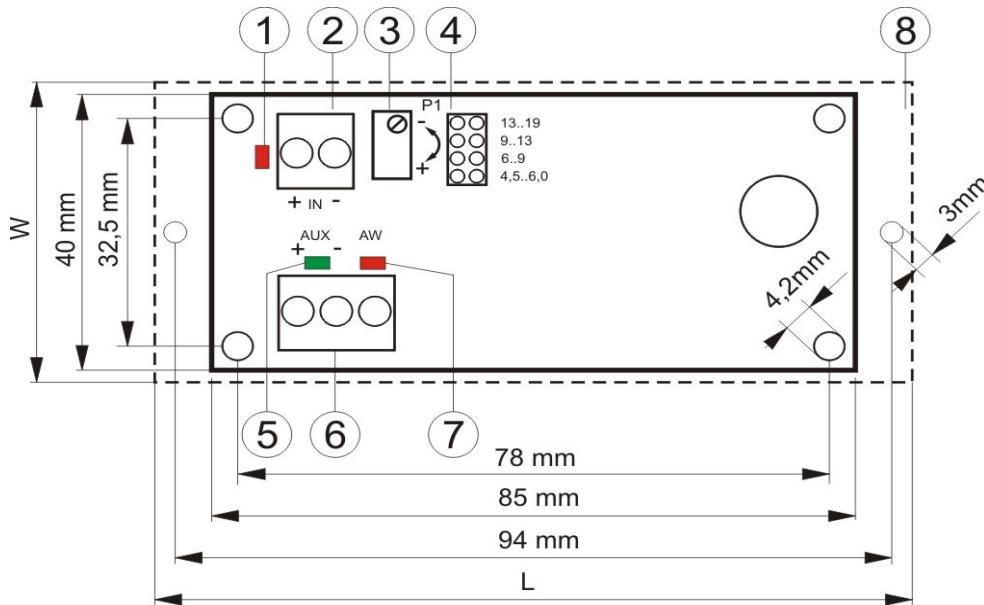

Fig.2. View of converter module.
1.2. Description of elements and connection links of the power-supply unit (fig.2, tab.1, tab.2).
No. [fig. 2]	Description of element